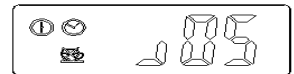

Fig. 1
4. Press the ON/OFF button to start the coffee maker working and a countdown timer (e.g. fig.1) will be shown in the display and the coffee maker will switch off after the set interval.
8. When the programmed start time is the same as the clock the coffee maker will start to operate, a countdown timer (e.g. fig.1) will be shown in the display and the coffee maker will switch off after the set interval.